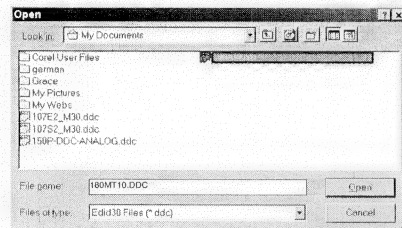

Fig. 27
2. Select the file you want to open as shown in Fig. 27.